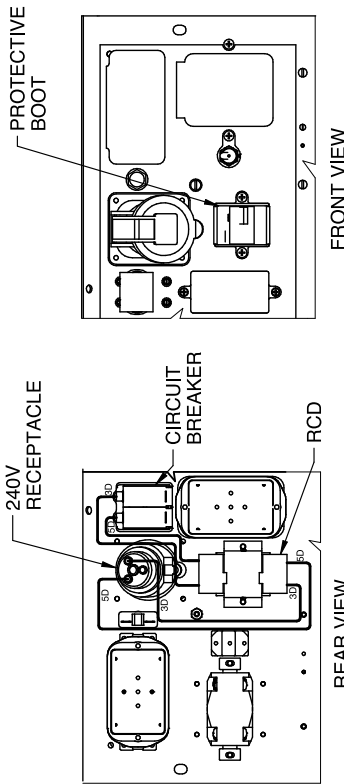

FIGURE 3
6. CONNECT LEADS FROM CIRCUIT BREAKER & RECEPTACLE TO RCD AS SHOWN & TIGHTEN LEADS TO 2.4NM (21 in-lb). (SEE FIGURE 3). NOTE LEAD CONFIGURATION. COAT AREA WHERE LEADS CONNECT TO RCD WITH A SILICONE RUBBER RTV SEALANT.